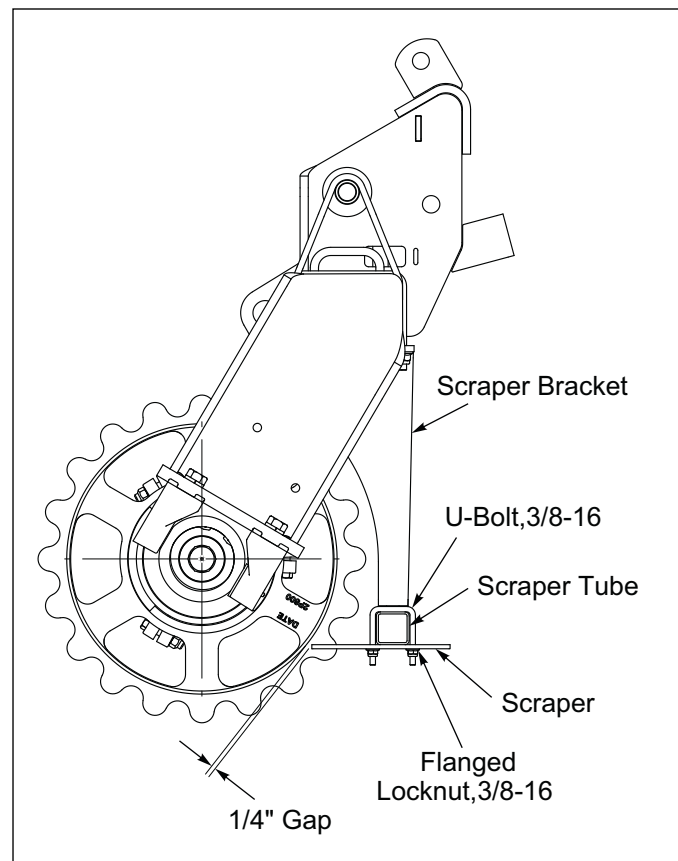

Figure 2-24: Scraper Gap
4. Adjust the Scrapers to obtain 1/4" clearance from the Notched Wheels. **See Figure 2-24.** Tighten all Hardware.